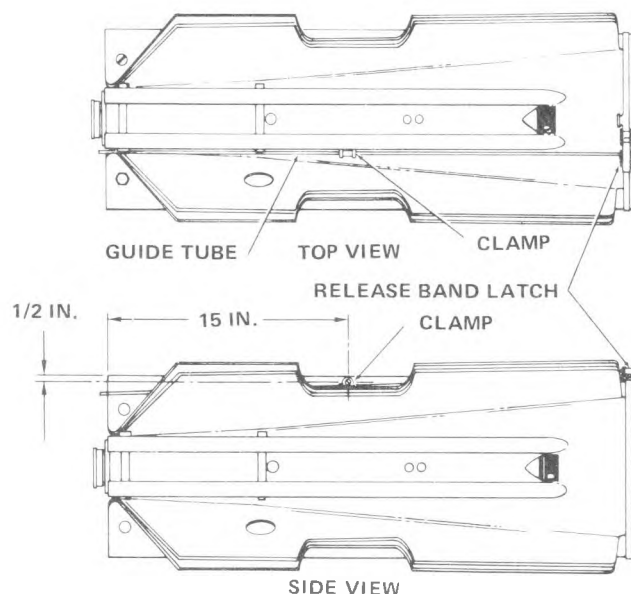

Figure 3-25. Installation of Guide Tube Clamp (Mod 1 Fin)
4. Verify that clamp for fin release wire guide tube is installed on Mod 1 fin (figure 3-25).
1. Mark location with center punch and drill one No. 26 hole (for No. 8 self-tapping screw) or No. 23 hole (for No. 20 self-tapping screw) approximately 15 inches forward of aft end and 1/2-inch below top of round edge of right-hand fin rib for installation of clamp as shown in figure 3-25.